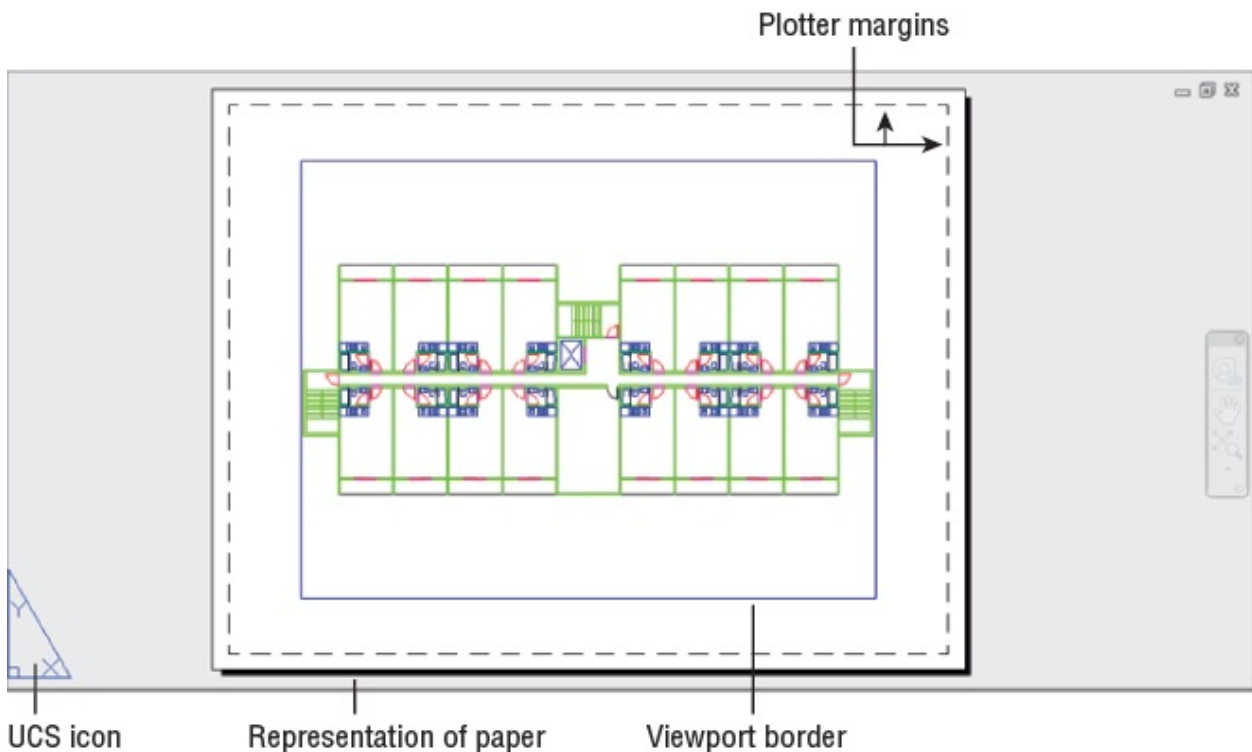

FIGURE 8.8 A view of Layout1
A view of your drawing appears on a gray background, as shown in Figure 8.8. This is a view of your drawing as it will appear when plotted on your current default printer or plotter. The white area represents the printer or plotter paper.
2. Click the viewport border, which is the rectangle surrounding the drawing, as shown in Figure 8.8. This is the viewport into model space. Notice that you can select it.